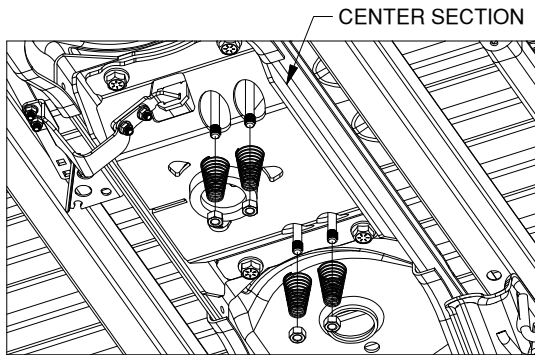

Figure E1: View looking up at center section.
3. **Add springs.** Place a conical spring over each leg of the U-bolts and secure with a 1/2" lock nut, see Figure E1. Tighten the lock nut until the nut is flush with the end of the U-bolt.